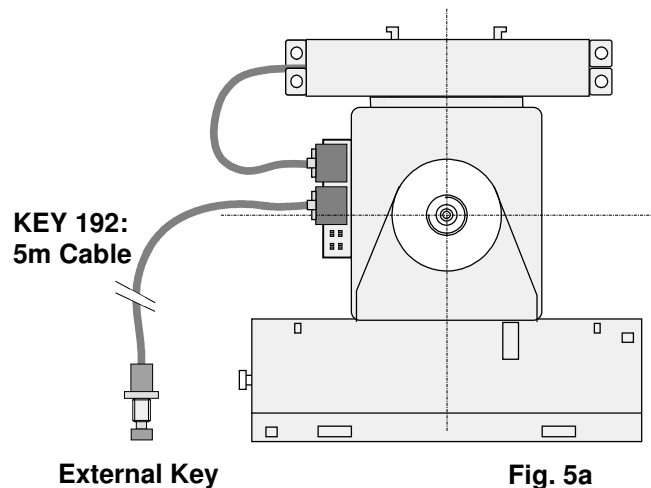

Fig. 5a
4.4 Remote control by means of external key (Fig. 5a)